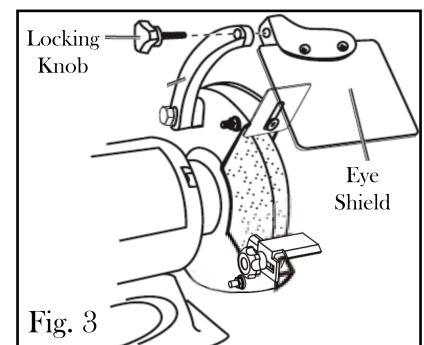

Fig. 3
3. Attach the right eye shield to the right shield arm and tighten the locking knob into place (Fig. 3).